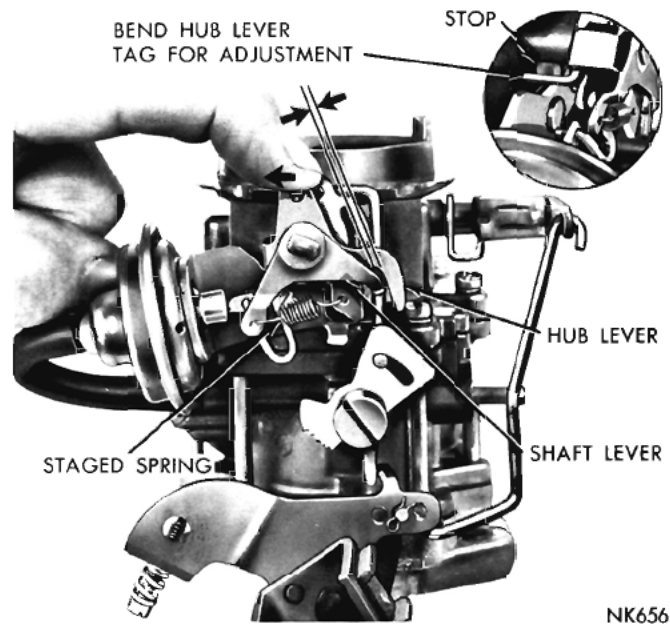

Fig. 20—Spring Stage Choke Adjustment
To check the spring staged choke for correct operating clearance, refer to (Fig. 20), then proceed as follows:
(1) Push on the hub lever with the finger, at the closed choke position. A small opening should exist between the shaft and the hub levers, as shown in (Fig. 20).
(2) Using a drill or gauge, measure the opening. The opening should be from .010 to .040 inches.
(3) If an adjustment is necessary, bend the hub lever tang until the correct opening has been obtained.